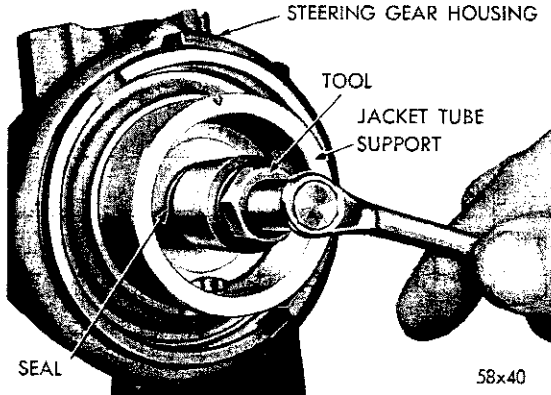

Fig. 31—Removing the Worm Shaft Upper Seal
- (1) Remove the worm shaft upper seal with puller Tool C-3638 (Fig. 31).